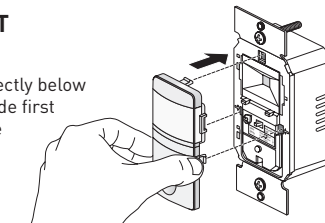

Fig 7: Replace Front Cover
- Take the new color front cover, place the top peg in first then snap in each side one at a time (see Fig. 7).